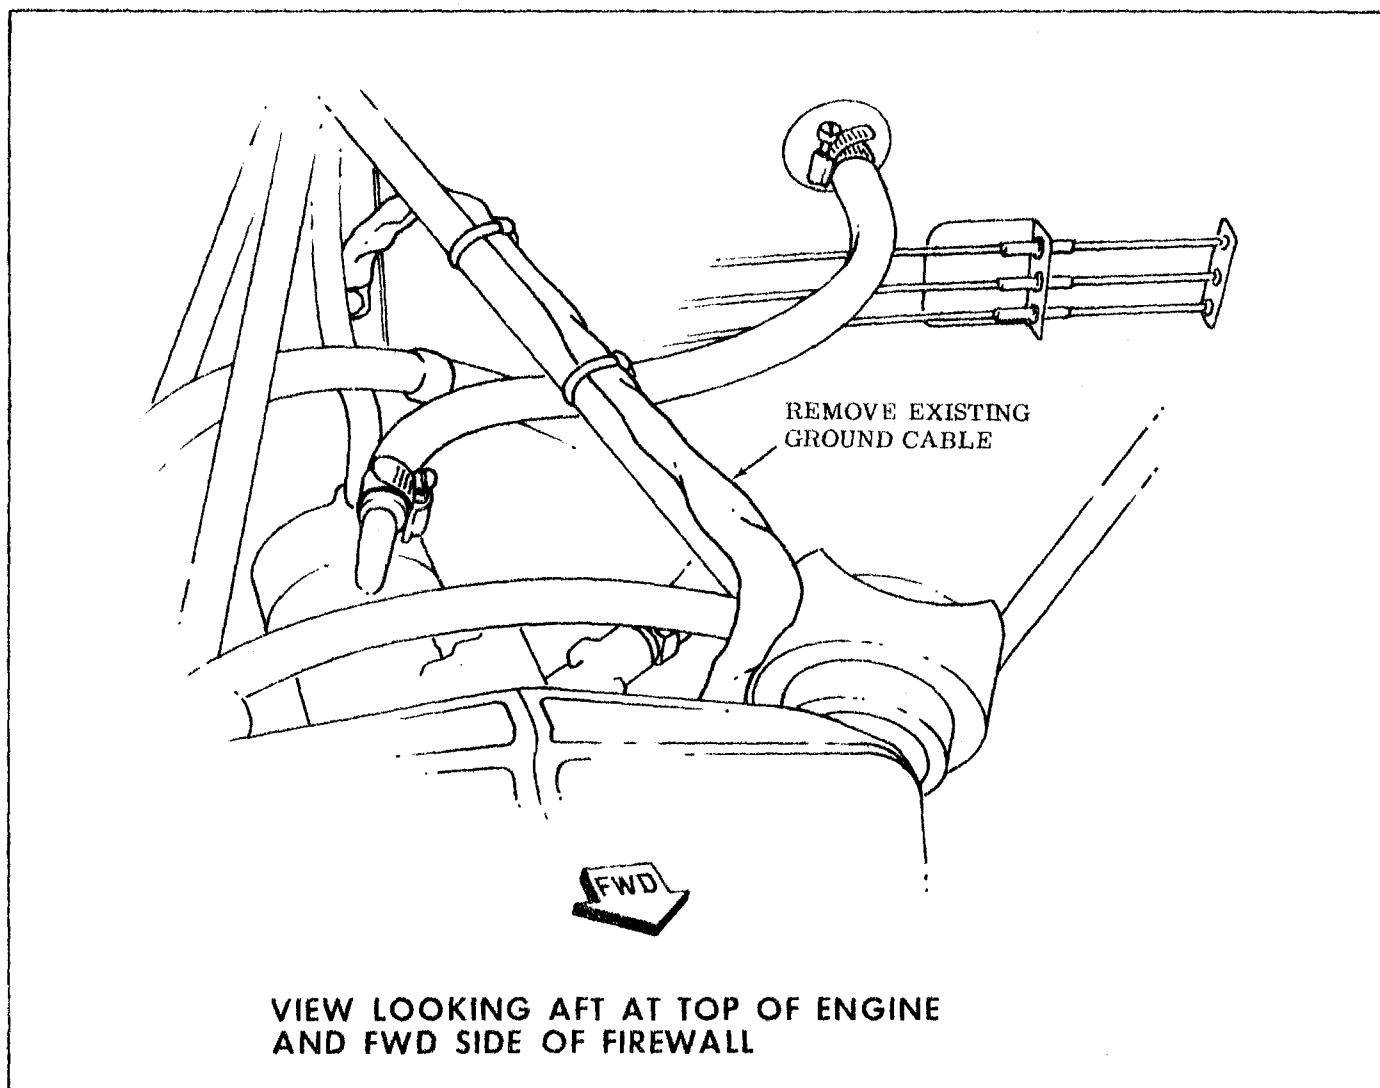

Figure 1.
6. Remove and discard existing engine ground strap (see Figure 1.).